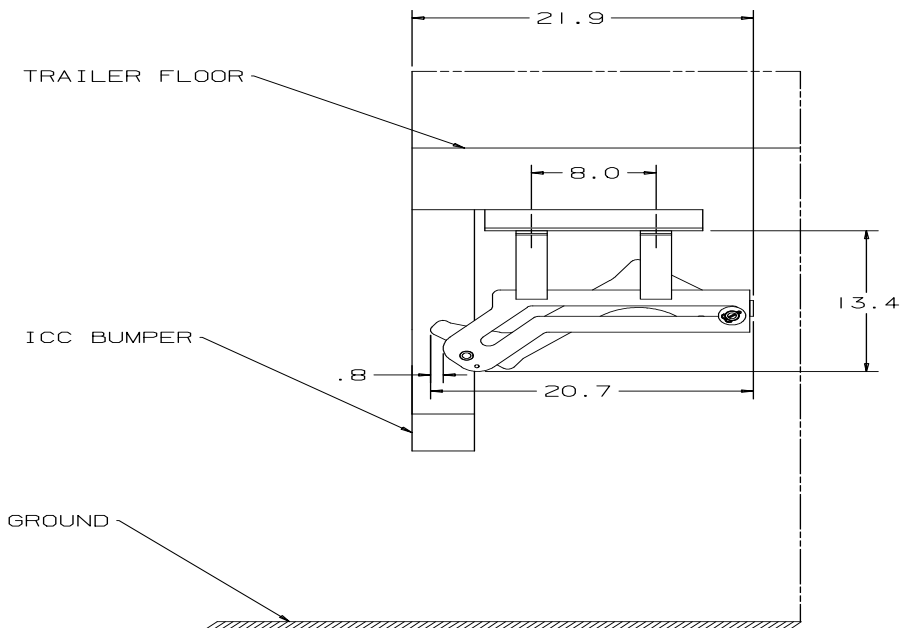

Fig. 3
- a.) Step requires 20-3/4" of clearance for the length. If you have a larger size step please call Randall for instructions. See figure 3